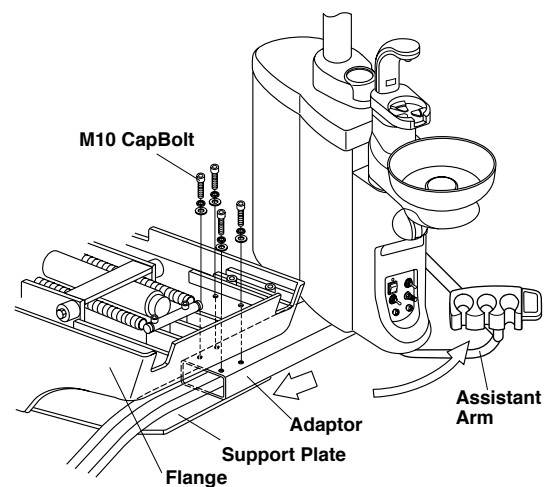

Fig.6-2 Mounting the Cuspidor Unit onto the Chair
- B. Lift up the unit from the pallet and position the assistant arm to the out side of the chair and remove the pallet from this area. Put the mounting adapter on to the support plate. Adjust the adaptor position to line up the adapter plate screw holes to the flange screw holes and fit it with 4xM10 cap bolts. (Fig. 6-2)